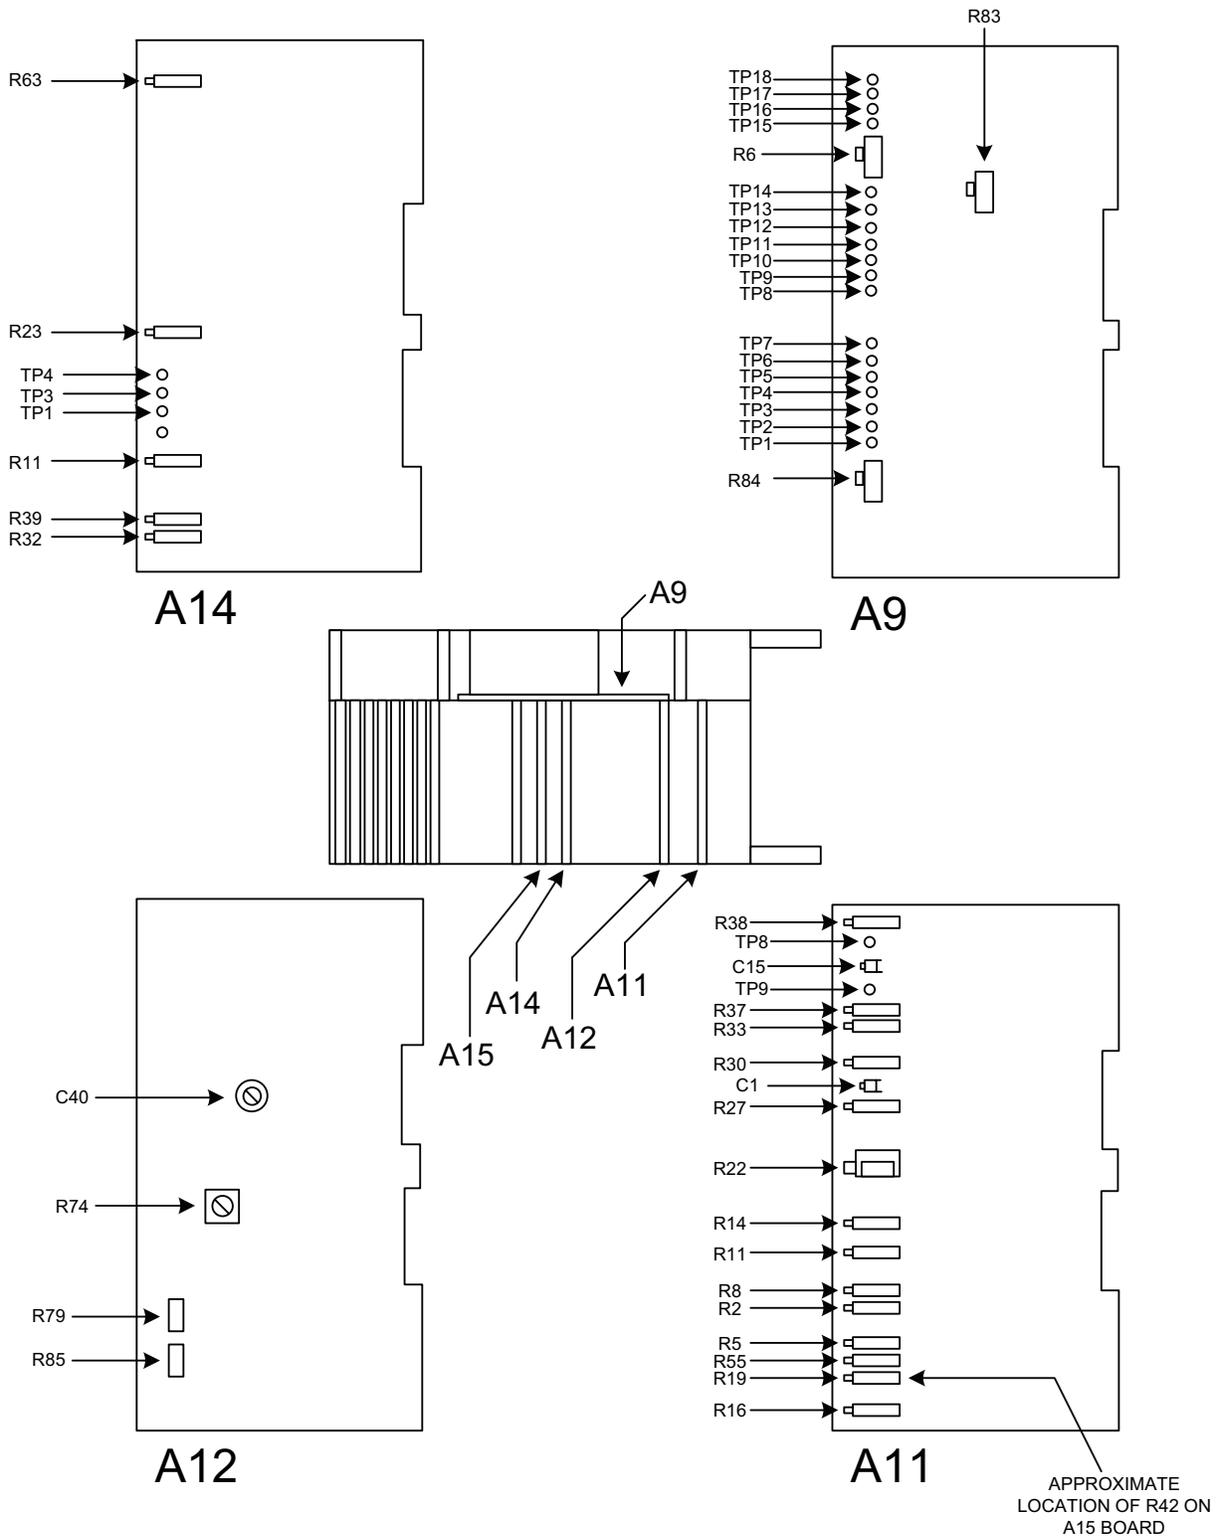

Figure 2. Test instrument - adjustment locations.
- h. If TI output voltage as indicated on multimeter is not $0 \pm 5 \mu\text{V}$ dc, press **50 DIVIDER-OVERRIDE** to **OVERRIDE** and adjust A14R63 (fig. 2) for 0 (zero) μV indication on multimeter.
- (1) Adjust **EDIT** control for a +19.0000 mV dc indication on TI.
- (2) Adjust A11R55 (fig. 2) for nominal value on multimeter (R).
- (3) Adjust **EDIT** control for a -19.0000 mV dc indication on TI.
- (4) Adjust A11R55 (fig. 2) for nominal value on multimeter.
- (5) Repeat **b** (1) through (4) above, if necessary for best in-tolerance compromise for both +19.0000 and -19.0000 mV dc outputs.
- (6) Adjust **EDIT** control for a +190.000 mV dc indication on TI.
- (7) Adjust A11R16 (fig. 2) for nominal value on multimeter (R).
- (8) Adjust **EDIT** control for a -190.000 mV dc indication on TI.
- (9) Adjust A11R16 (fig. 2) for nominal value on multimeter.
- (10) Repeat **b** (6) through (9) above, if necessary for best in-tolerance compromise for both +190.000 and -190.000 mV dc outputs.
- (11) Adjust **EDIT** control for a +1.90000 V dc indication on TI.
- (12) Adjust A11R19 (fig. 2) for nominal value on multimeter (R).
- (13) Adjust **EDIT** control for a -1.90000 V dc indication on TI.
- (14) Adjust A11R19 (fig. 2) for nominal value on multimeter.
- (15) Repeat **b** (11) through (14) above, if necessary for best in-tolerance compromise for both +1.90000 and -1.90000 V dc output.
- (16) Enter **EDIT** control for a 19.9900 V dc output.
- (17) Adjust A11R30 and A11R33 (fig. 2) in equal amounts in opposite directions for optimal value on multimeter (R).
- (18) Adjust **EDIT** control for a 199.900 V dc output indication on TI.
- (19) Adjust A11R27 (fig. 2) for optimal value on multimeter (R).
- (20) Adjust **EDIT** control for a 400.000 V dc output indication on TI.
- (21) Adjust A11R37 (fig. 2) for optimal value on multimeter (R).
- (1) Adjust EDIT control for 1.90000 mA dc output.
- (2) Adjust A15R42 (fig. 2) for 1.900000 mA dc indication on multimeter (R).
¹Connect multimeter between A11TP8 (HD) (fig. 2) and A11TP9 (LO) (fig. 2). Adjust A11R38 (fig. 2) for nominal indication on multimeter (R).
²Adjust A11R30 and A11R33 (fig. 2) equal amounts in same direction for nominal indication on multimeter(R).